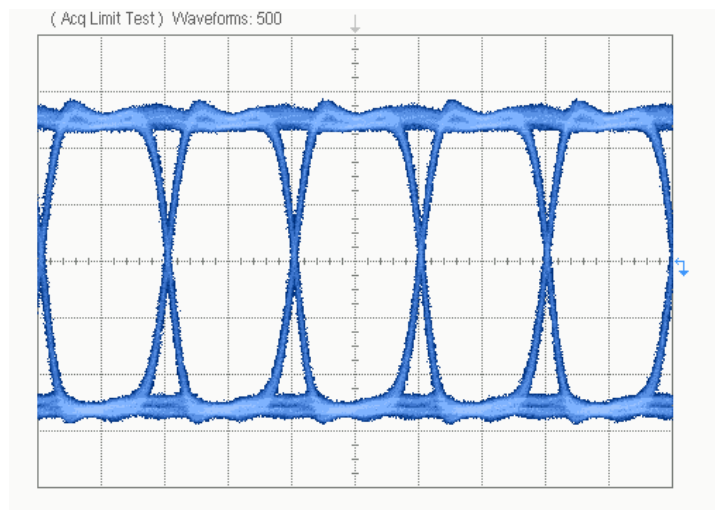

Figure 2. Installation Setup Waveform
12. Verify that the waveform is similar to the one shown in Figure 2.